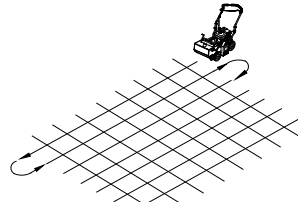

Fig. 5
**SLICING / OVERSEEDING:** Mow the lawn to shorter than the normal cut height before starting (i.e. approximately 2" tall for fescue grass). For the best result, slice/overseed in single pass pattern (See Fig. 5 & 6).